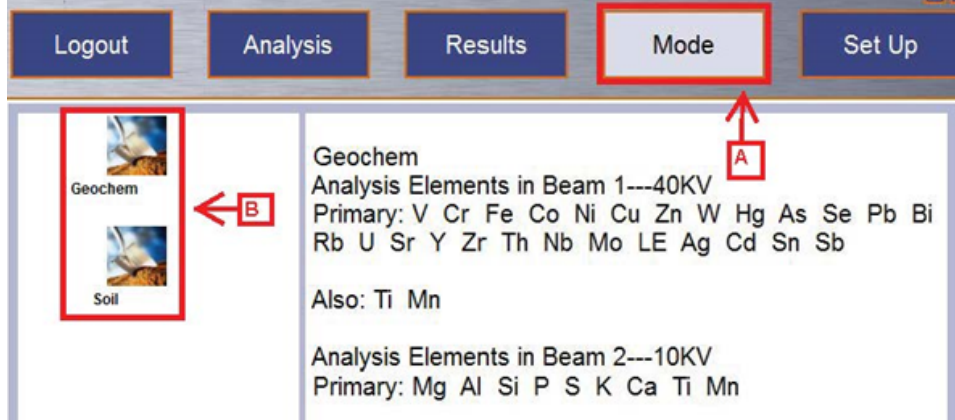

Figure 5. Mode Window. A. Mode Button to access the screen. B. Geochemistry and Soil Modes (on display: Geochemistry mode)
- To access the Modes click on **Mode** at the top of the screen (Figure 5). This directs you to the 'Mode' Screen and in the left panel you can choose between the **Geochemistry** and **Soil** modes. Click on each to see the features of each Mode and select the one best for your analysis.